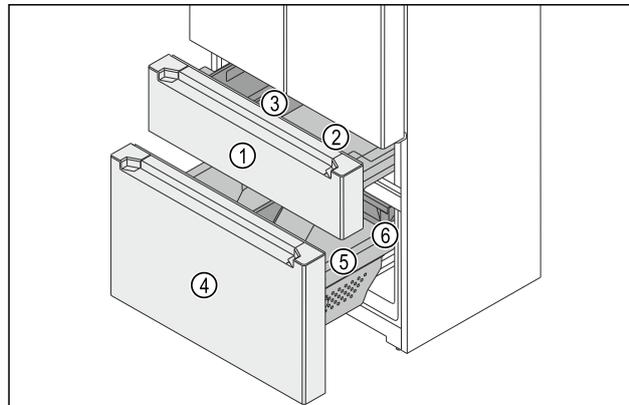

Fig. 149 Freezer section pull-out telescopic drawers
- (1) Upper telescopic unit
- (2) Container
- (3) FlexBox
- (4) Lower telescopic unit
- (5) Container
- (6) Drawer
The freezer section consists of two pull-out telescopic drawers. The upper telescopic unit Fig. 149 (1) contains a container Fig. 149 (2) and a FlexBox Fig. 149 (3). The lower telescopic unit Fig. 149 (4) contains a large container Fig. 149 (5) and a drawer Fig. 149 (6). The containers in the upper and lower telescopic units can be removed for cleaning.